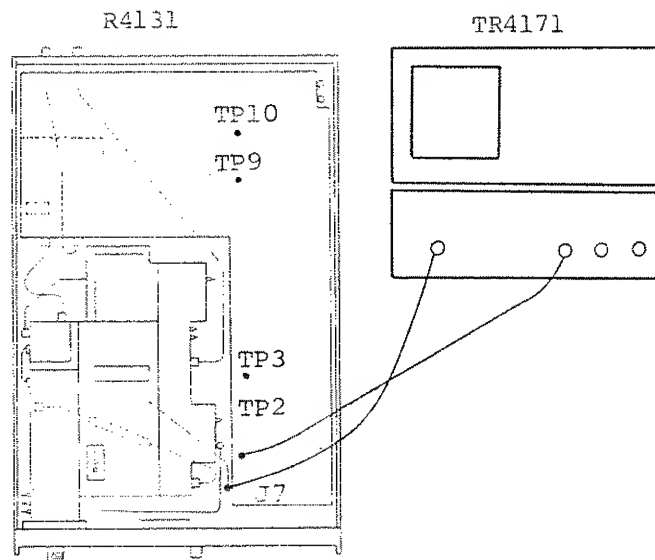

Figure 10-4 Crystal Filter Adjustment
- ① Connect the units as shown in Figure 10-4.